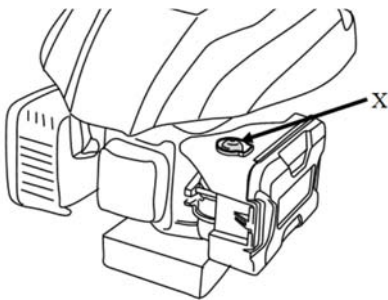

Fig.14-1
Press the primer (X) (if present) with force 3 times (Fig.14-1)